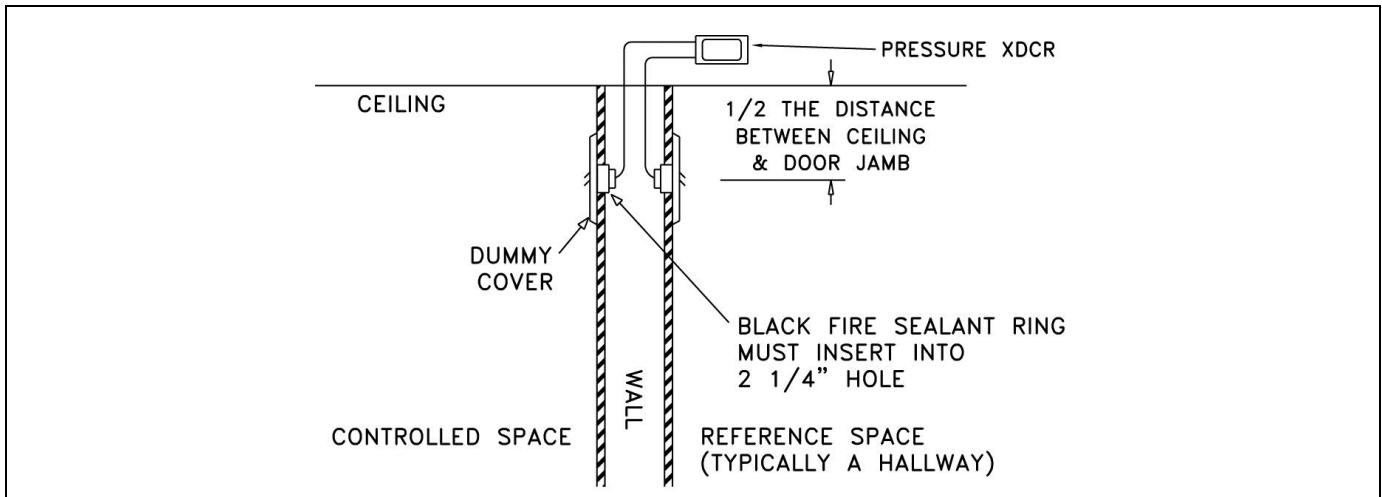
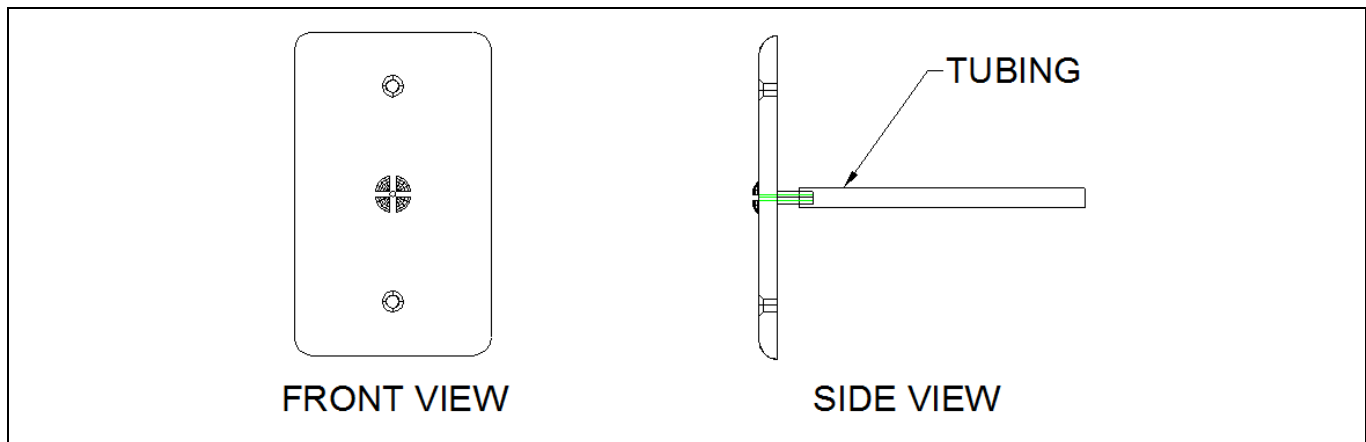

Figure 5: Cutaway View of Mounted Pressure Transducer Assembly
Figure 6: Pressure Transducer Mounting
801913 pressure plates must be mounted in the wall between the controlled space (clean room) and referenced space (hallway), exactly as shown in Figure 5 and Figure 6.
- Install pressure transducer in desired location (typically above ceiling). The transducer must be mounted on a wall in the correct position per Figure 5 (screws not provided). Do **not** mount pressure transducer to duct or other vibrating surface.
- Determine pressure sensor location (Figure 1, Figure 5 and Figure 6). Pressure sensor typically mounts in the reference space, and the plate mounts in the clean room.
- Insert the pressure plate into the hole in the wall. Screw the pressure plate to the wall. The finished assembly should look like Figure 5.